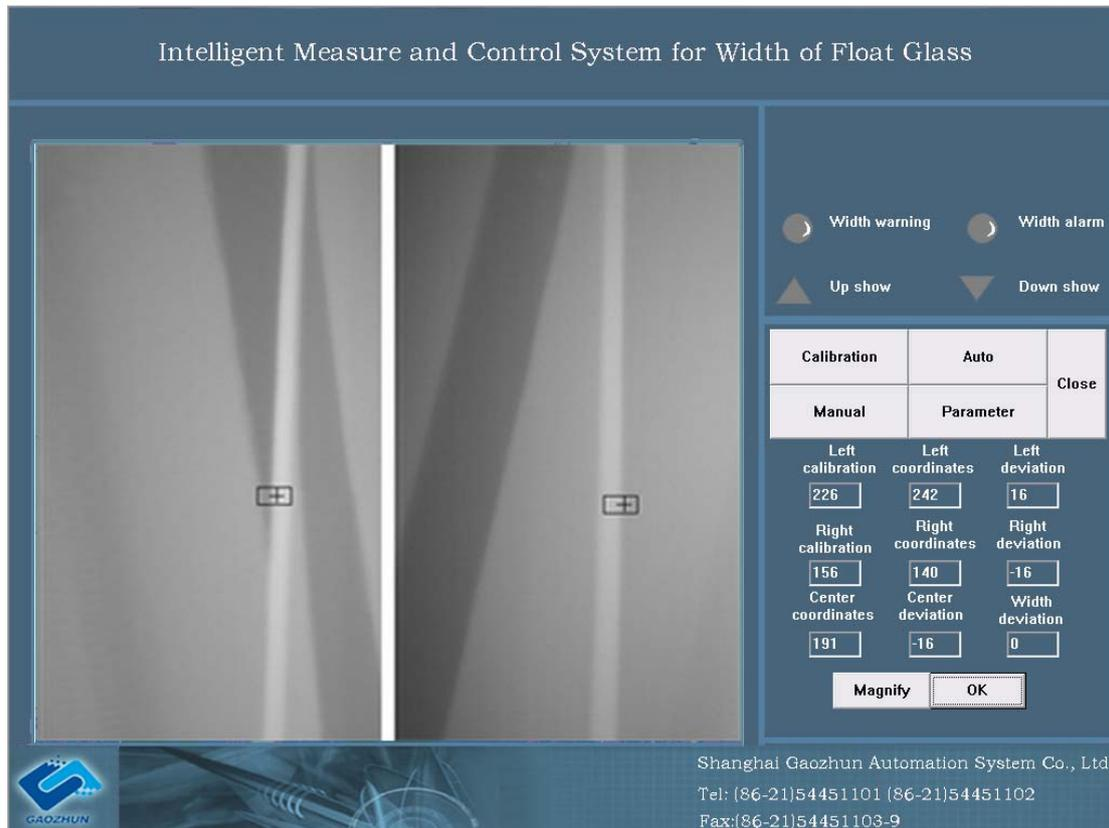

Fig. 7 Auto Control Interface
5.4 Click the button of auto control with the left key of mouse and enter the interface of auto control, as shown in Fig. 7